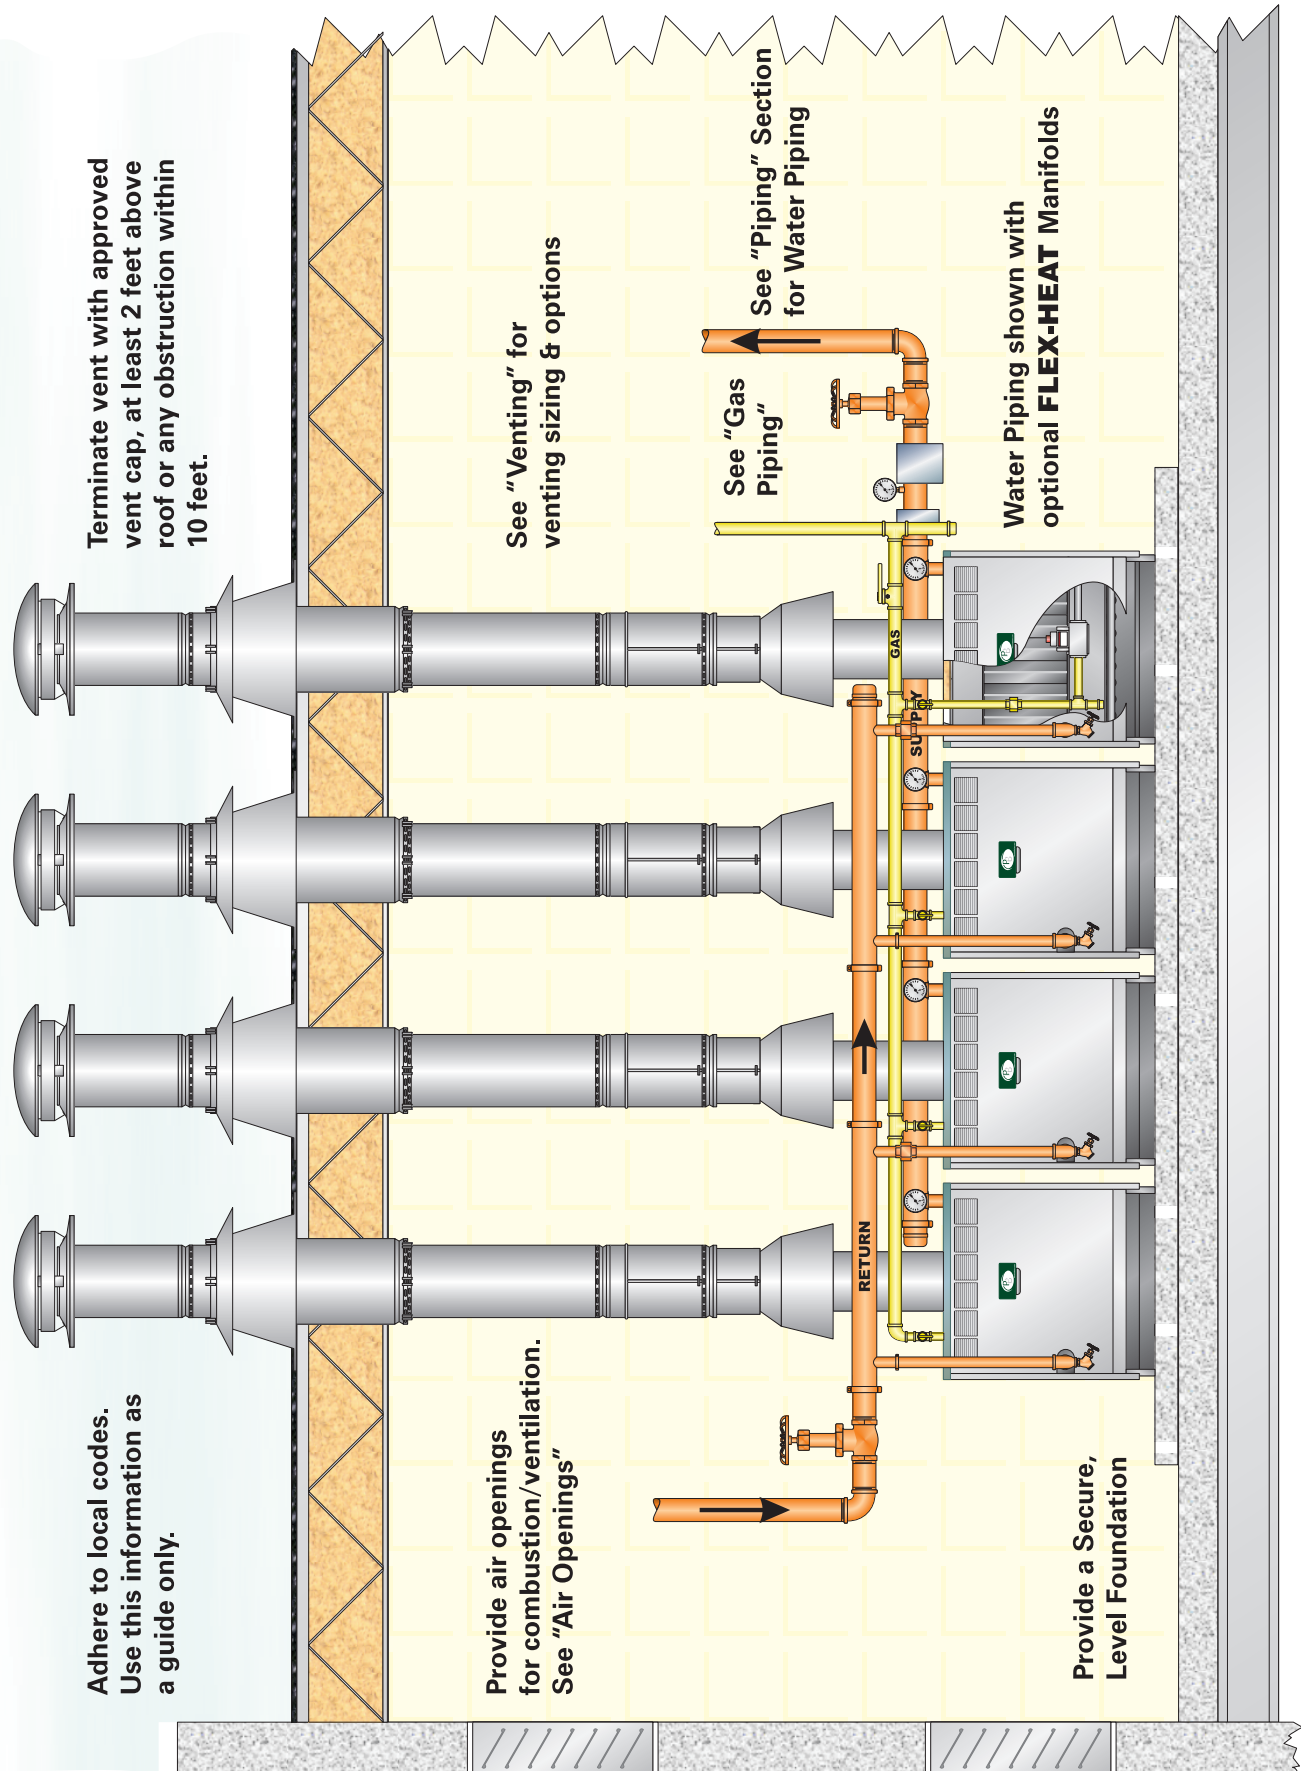

Figure 3.3: Typical Mechanical Room Layout with Four Modules and Individual Venting
6. See Figures 3.3 and 3.4 for typical mechanical room lay-out.